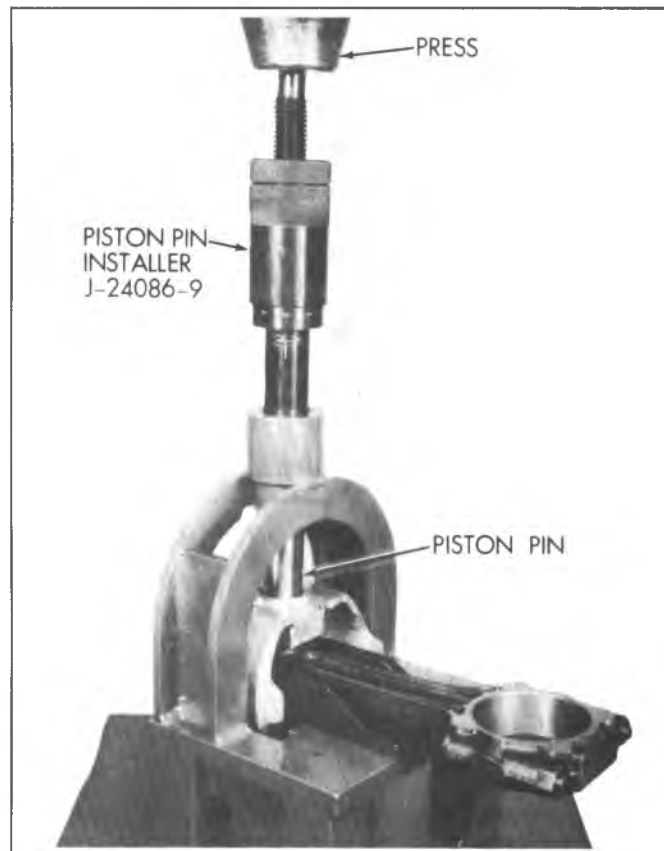

Fig. 6A5-53--Installing Piston Pin
3. Using piston pin installer, J-24086-9, press the piston pin into the piston and connecting rod (fig. 6A5-53).